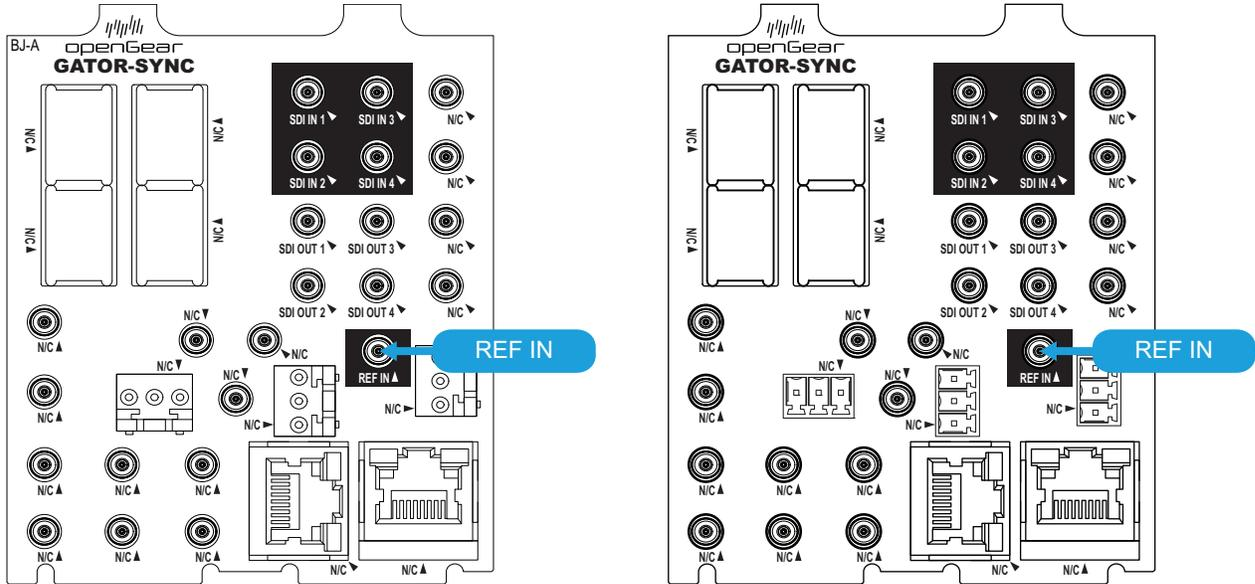
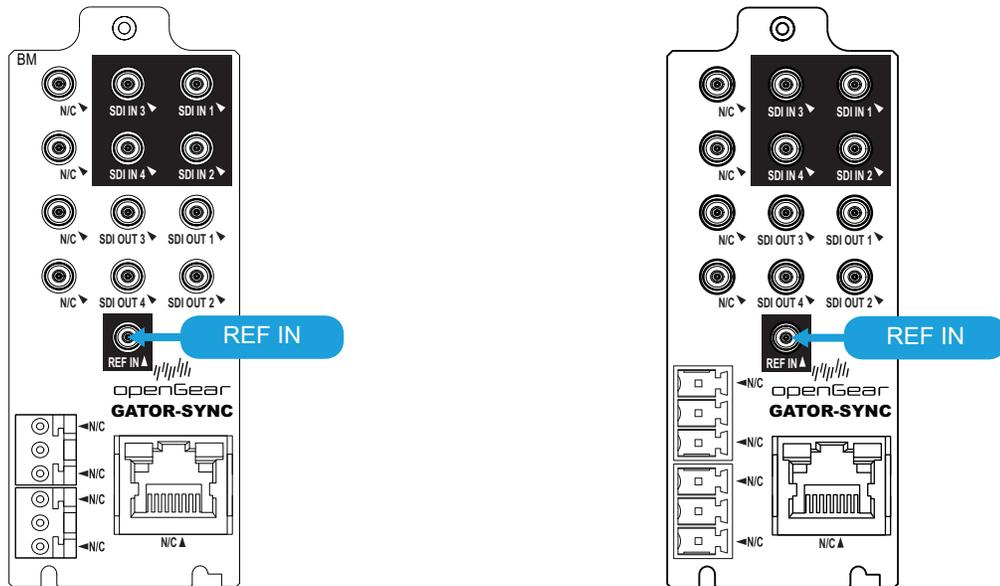

Figure 9 8322AR-317 — REF IN
Figure 10 8323AR-325 — REF IN
1. Connect one end of a Belden cable to the **REF IN** HD-BNC on the GATOR-SYNC rear module. Refer to **Figure 9** or **Figure 10**.